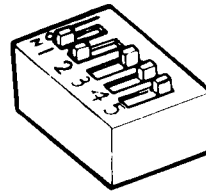

Fig. 2--Standard Switch Positions
1.08 The options on the logic circuit card or in the PT unit (ASR) are factory optioned and should not be changed unless the local engineering requirements specify incorporating a nonstandard option (Fig. 2).